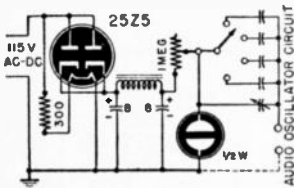

Fig. 601
A. The diagram is shown in Fig. 601. A switching arrangement allows the use of different values of condensers for a wide range. The